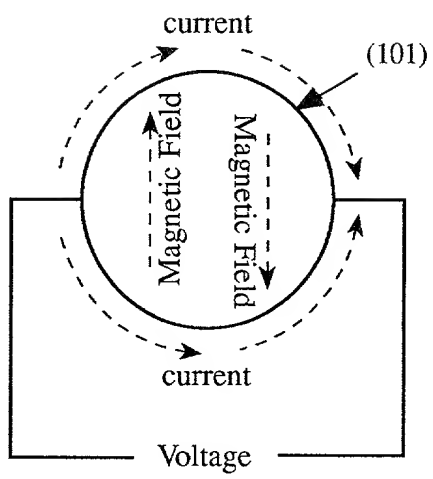

Figure 12
FIG. 12 is a schematic diagram of a circular device (101) showing current flow and magnetic fields.